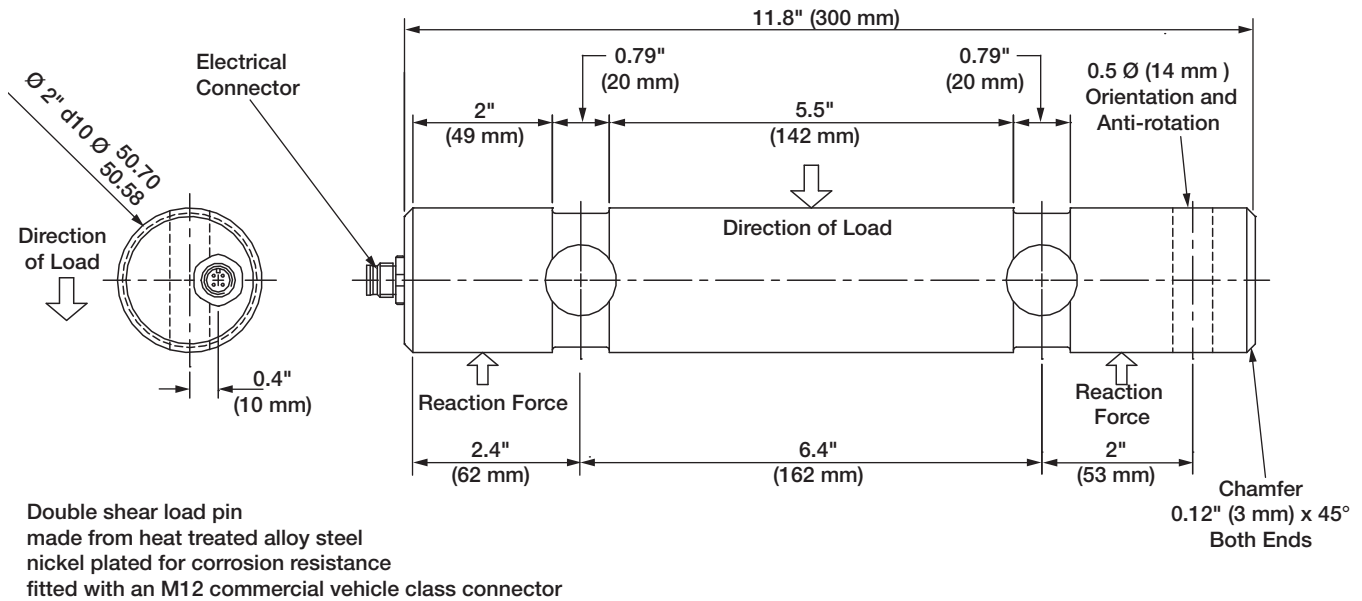

Figure 2-2. 2 Inch Diameter Load Pin (PN 131207)
- 2 inch diameter (see Figure 2-2) Dump Truck
The load pins have arrows indicating the downward force, or direction of load applied to register a positive weight value. See Figure 2-2 for load pin specifications and load direction.